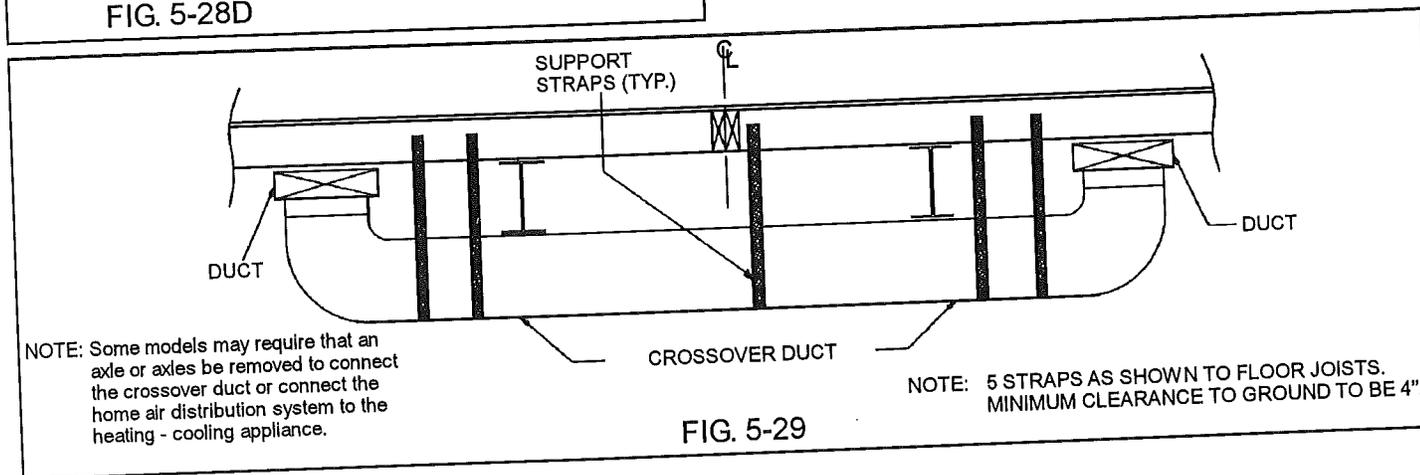

FIG. 5-29
3. Permanently secure the crossover duct with straps as shown in Fig. 5-29. Do not allow duct to rest on the ground. Maintain at least a 4-inch clearance between duct and the ground.